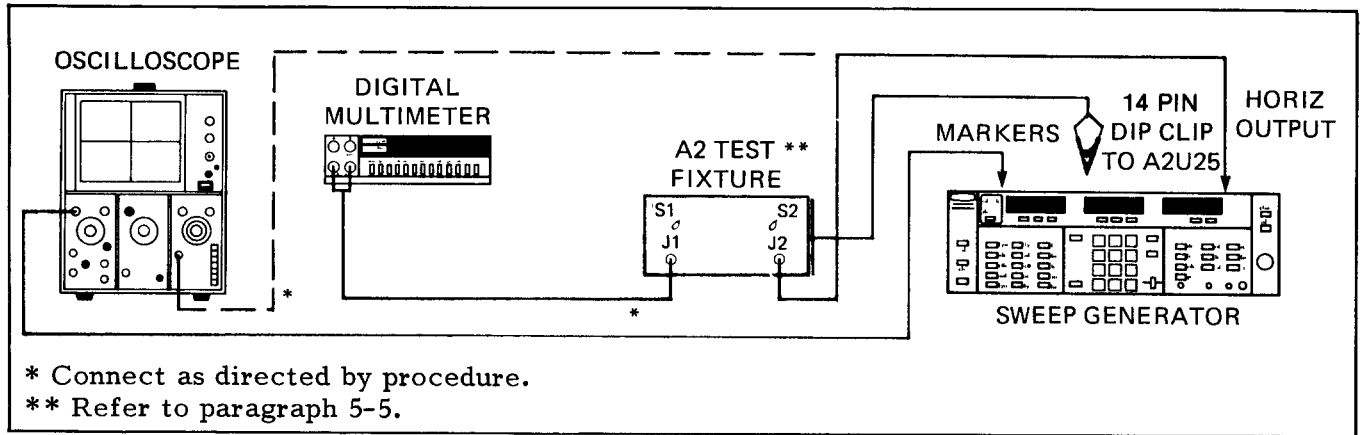

Figure 5-11. Test Equipment Setup for A3 Marker Generator Adjustments
1. Set up the test equipment as shown in Figure 5-11, and turn the equipment on.